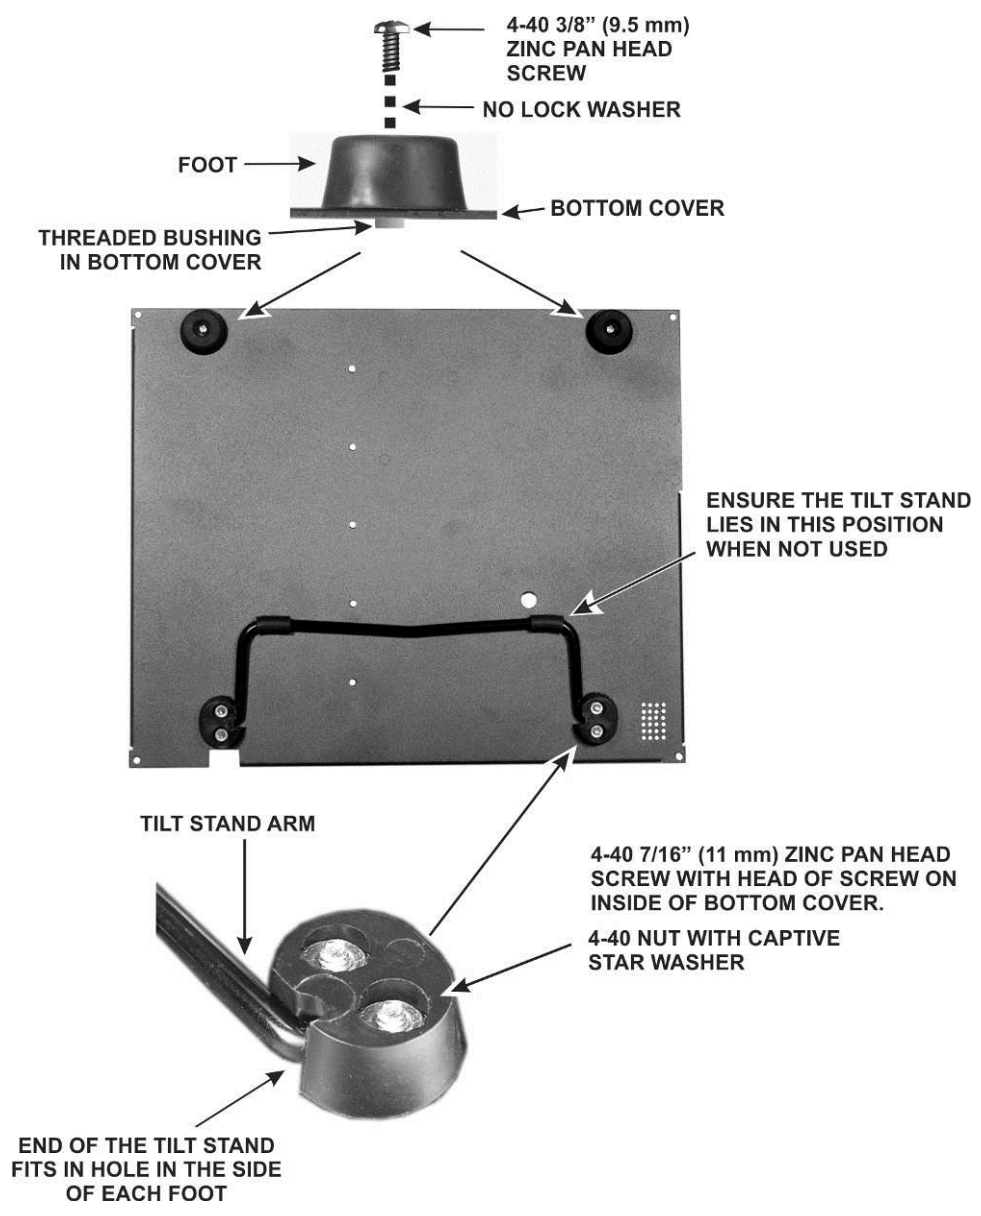

Figure 5. Installing Bottom Cover Feet.
- Locate the bottom cover and install the tilt stand as shown in Figure 5.
Install the two rear feet as shown in Figure 5. Note that no lock washers are used and the screws thread into bushings permanently mounted in the bottom cover.
- Check to ensure the tilt stand lies as shown in Figure 5 when it is retracted.